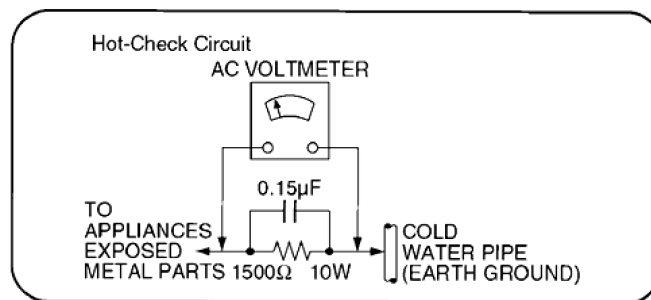

Fig. 1
### 1.1.2. Leakage Current Hot Check (See Figure 1)
2. Connect a  $1.5k\Omega$ , 10 watts resistor, in parallel with a  $0.15\mu F$  capacitor, between each exposed metallic part on the set and a good earth ground such as a water pipe, as shown in Figure 1.